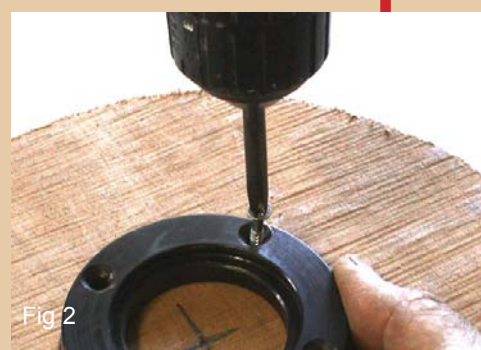

Fig 2
3. Attach the ring (see Fig 2) Use 1"-1 ½" 10 Gauge Pozidrive screws. Use the largest size with larger bowl blanks. Use all screw positions to secure.